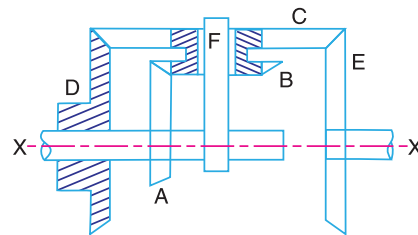

Fig. 13.49
20. An epicyclic gear consists of bevel wheels as shown in Fig. 13.49. The driving pinion A has 20 teeth and meshes with the wheel B which has 25 teeth. The wheels B and C are fixed together and turn freely on the shaft F . The shaft F can rotate freely about the main axis XX . The wheel C has 50 teeth and meshes with wheels D and E , each of which has 60 teeth. Find the speed and direction of E when A rotates at 200 r.p.m., if